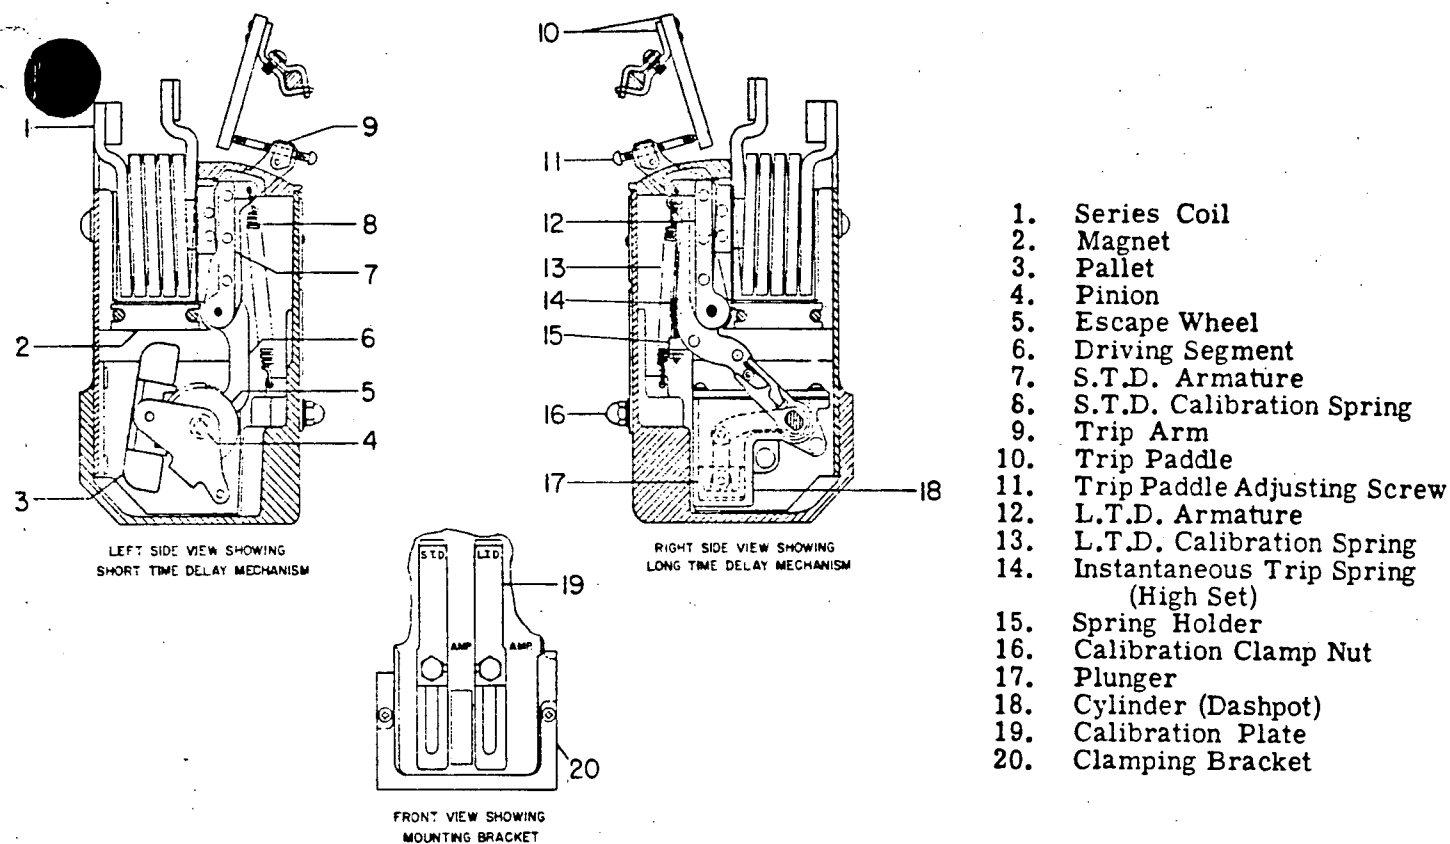

Figure 12. (695C189) EC-1 Type Overcurrent Trip Device
SHORT TIME DELAY TRIPPING, Figure 12.
LONG TIME DELAY TRIPPING, Figure 12
The armature (12), is retained by the calibration spring (13). After the magnetic force, produced by an overcurrent condition, overcomes this restraining force, the armature movement is further retarded by the flow of silicone oil in a dashpot, which produces an inverse time delay characteristic. The mechanism is shown in the right side view of Figure 12.
INSTANTANEOUS TRIPPING, Figure 12.